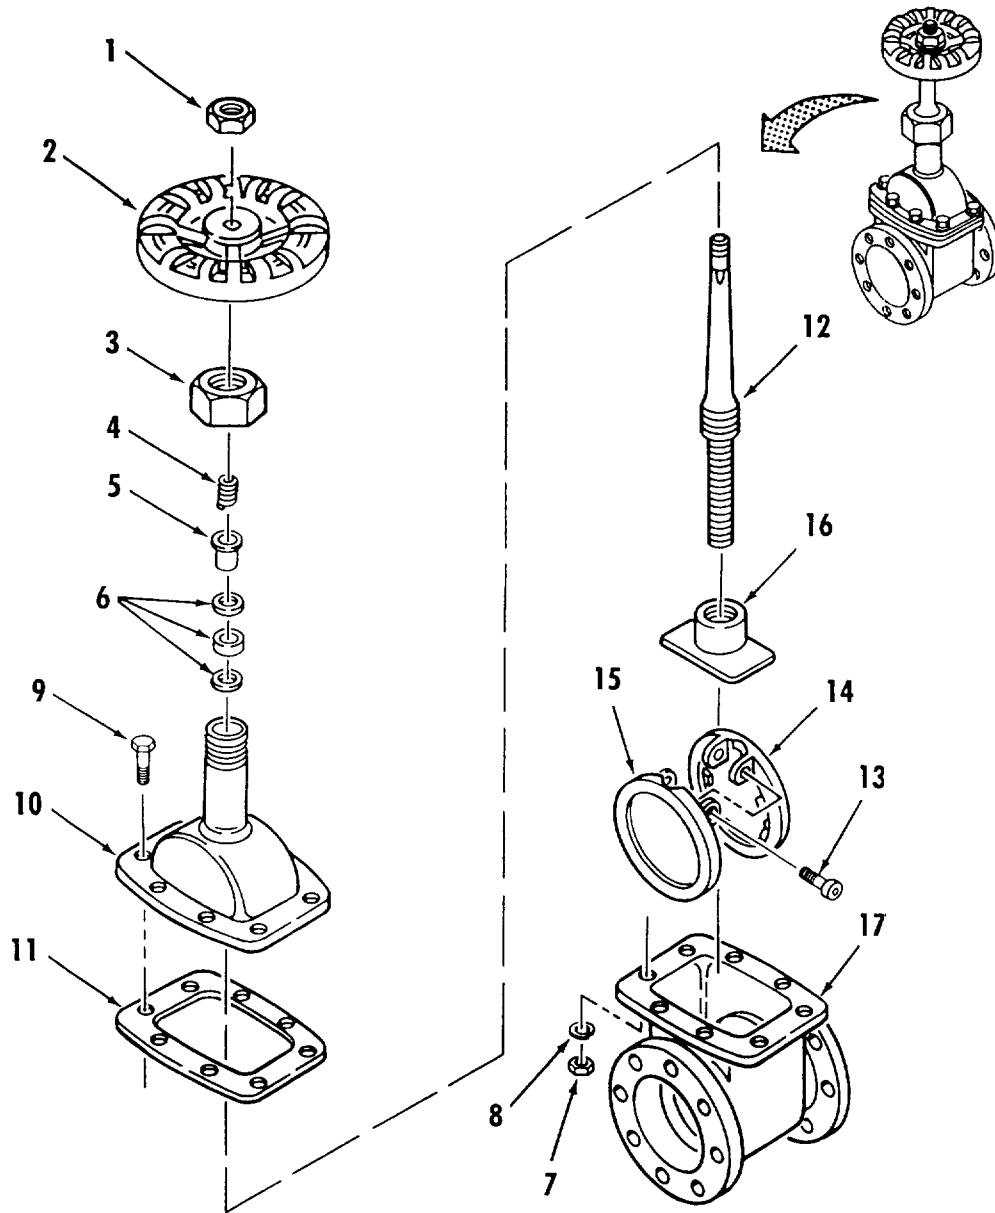

Figure 4-6. 4-Inch Gate Valve Repair.
a. Disassembly. Refer to figure 4-6.
- (1) Remove nut (1) and handwheel (2) from stem (12).
- (2) Remove packing nut (3), gland spring (4), packing gland (5) and packing (6) from top of bonnet (10).
- (3) Remove nuts (7), lockwashers (8), and cap screws (9) from valve body (17) and bonnet (10).
- c. Inspection. Refer to figure 4-6.
- (1) Inspect bonnet (10) and valve body (17) for cracks, scored mating surfaces, stripped threads and corrosion.
- (2) Inspect for bent stem (12) and galled or stripped threads.
- (3) Inspect sealing surfaces of discs (14 and 15) and valve body (17) for deep scratches and cracks.
- e. Assembly. Refer to figure 4-6.
- (1) Screw stem (12) all the way into bottom of bonnet (10), then back out stem three full turns. Do not allow stem to move from this position.
- (2) While holding stem (12) in place, screw disc riser (16) onto stem until bottom of riser is flush with end of stem.
- (3) Position discs (14 and 15) on disc riser (16) and install two alien screws (13).
- (4) While preventing stem (12) from turning in bonnet (10), turn discs (14 and 15) and riser (16) counterclockwise onto stem until top of discs contact bottom of bonnet.
- (5) Position gasket (11) on valve body (17).
- (6) While holding stem (12) in position, lower bonnet (10) and discs (14 and 15) into valve body (17). Do not rotate discs more than 1/4 turn to align discs with body.
- (7) Install cap screws (9), lockwashers (8) and nuts (7) in valve body (17) and bonnet (10). Tighten nuts evenly in a cross pattern.
- (8) Slide packing (6) over stem (12) and down into bonnet (10).
- (9) Slide packing gland (5) and gland spring (4) over stem (12).
- (10) Slide packing nut (3) over stem (12) and tighten onto top of bonnet (10).